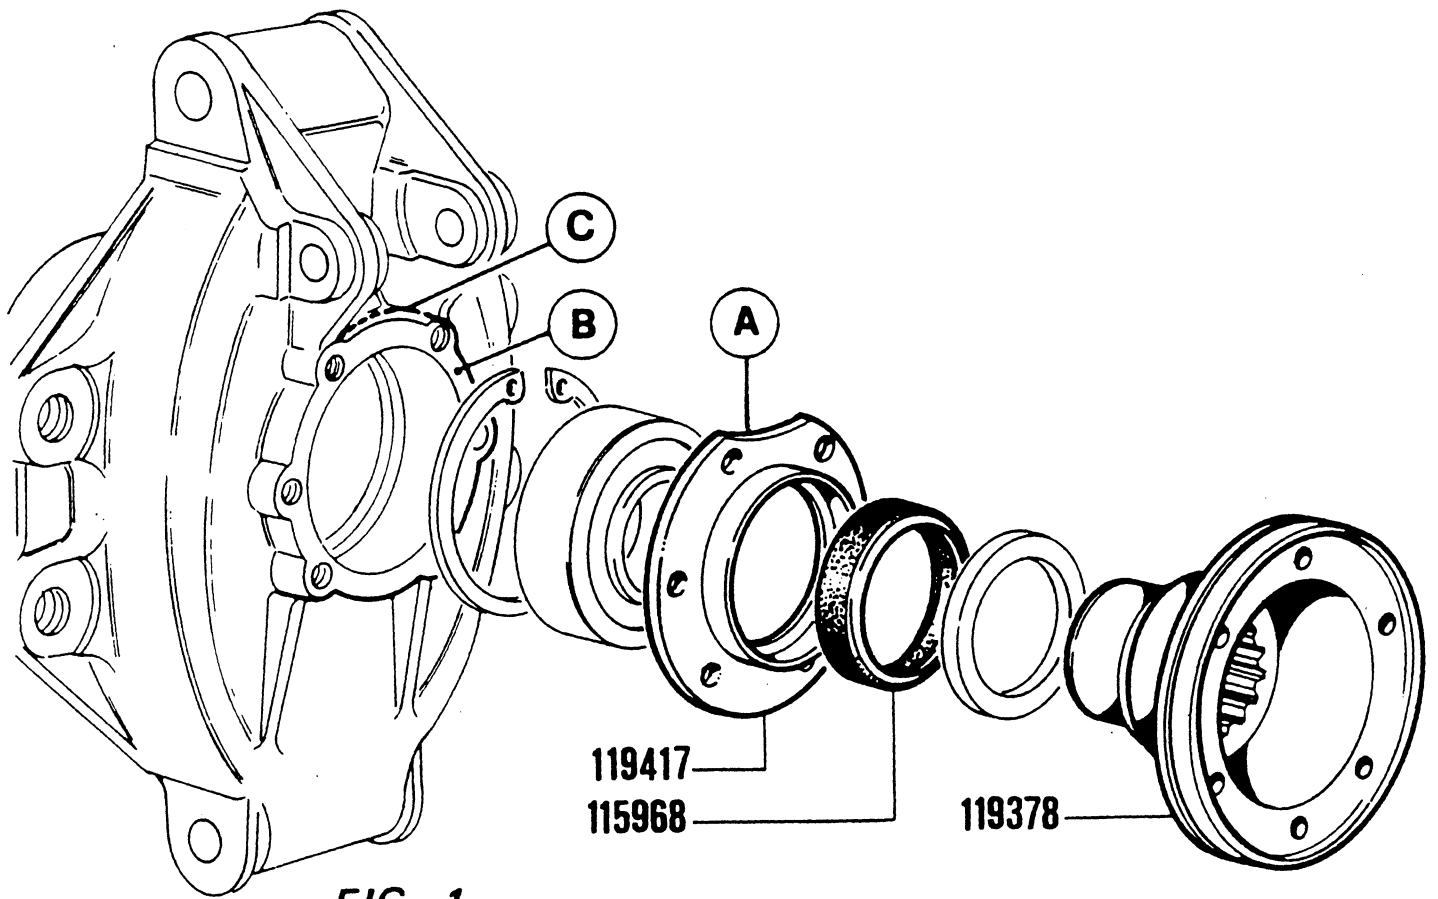
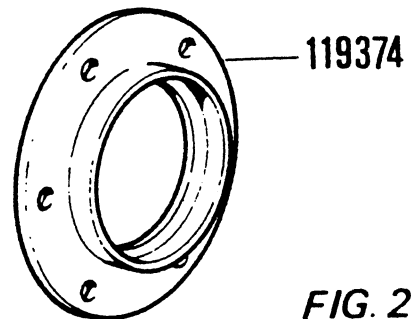

FIG. 1
FIG. 2
All cars are fitted with new rear hub seal rings installed on the half-shaft side of the rear suspension uprights. The new assembly, shown in Fig. 1, can be installed also on previous cars, and is made up with 3 new parts, identified in Fig. 1 with their part numbers, which replace the corresponding old items.
When the rear suspension uprights will be available, in the future, with the modified shape shown by the dotted line (C) in Fig. 1, the new cars will be fitted with the flange for bearing p.n. 119374, shown in Fig. 2.
This last flange differs from the one shown in Fig. 1, only because it is a complete circle, without the recess A, and it will only be used for new cars with modified uprights.